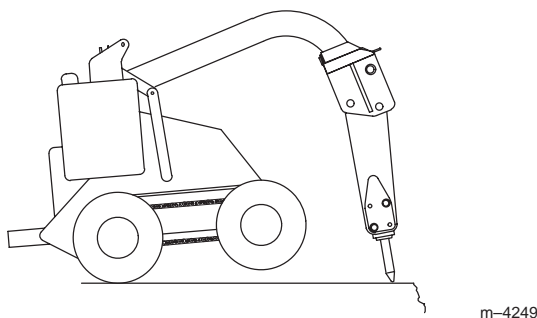

Figure 2
- Place the bit within 6 to 18 inches of the edge of the material to be broken with the breaker angled slightly towards the edge (Fig. 2).
- When breaking, always apply downward pressure with the loader arms until the front of the traction unit raises off of the ground a few inches (Fig. 2). Maintain this pressure as the bit works its way into the material being broken.